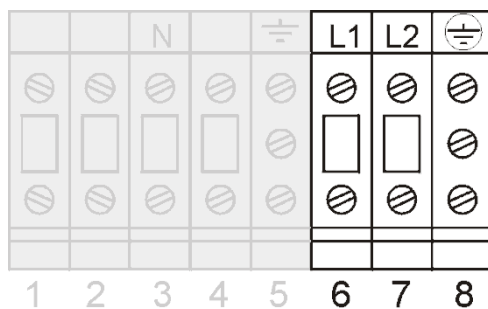

Figure 9. LP 5/6/8/10-11U: Output (grey) / input terminals
3. Connect the utility supply wires to terminals 6 (L1), 7 (L2) and 8 (equipment grounding conductor). See figure 9. Ground connection is essential!